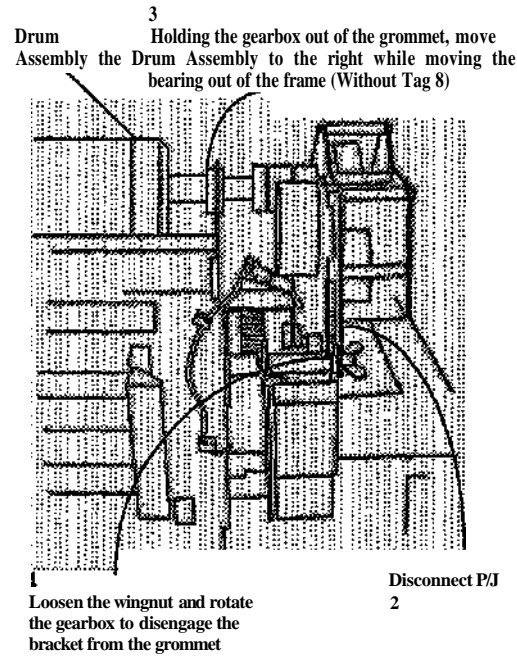

Figure 5. Moving the Bearing (Right Side)
10. (Figure 5): Move the bearing out of the Xerographic Module Frame (Right Side).